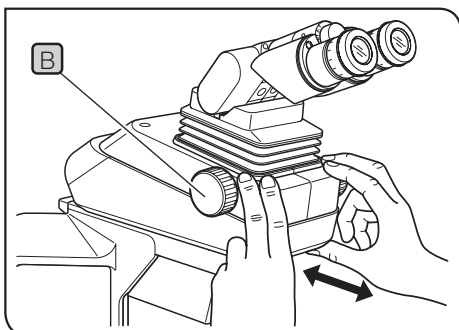

Fig.38
- When adjusting front-rear position of the observation tube, hold the base of the observation tube as shown in Fig.38.